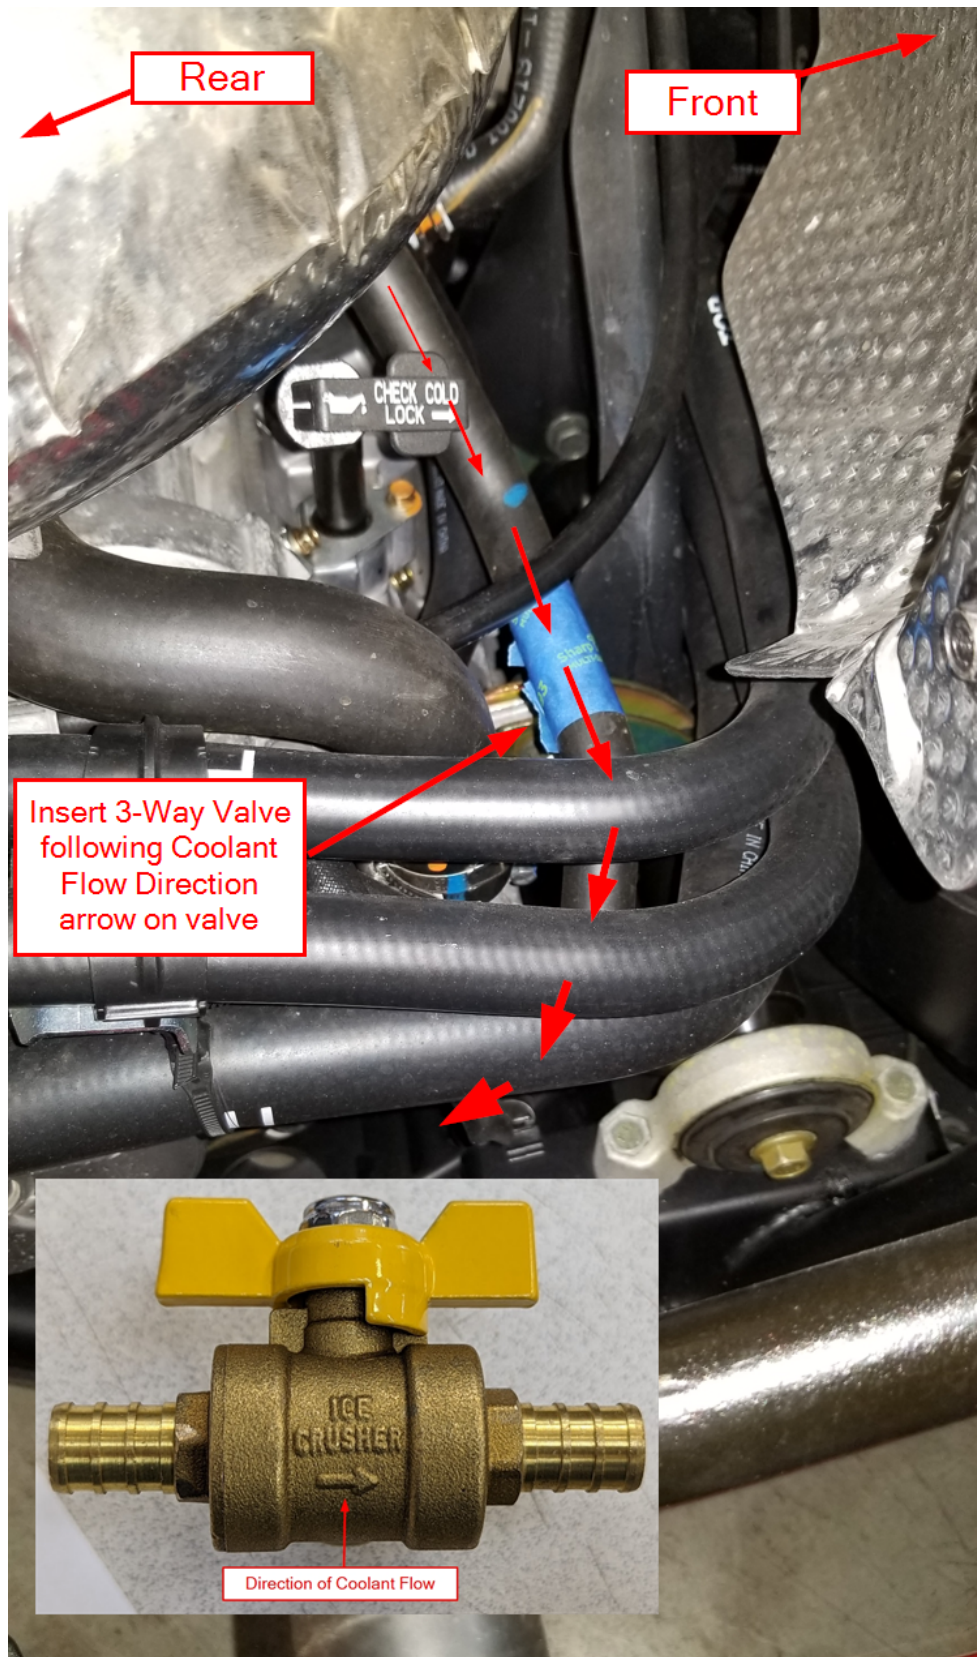

Figure 19
- n. Cut the 1"-1.5" section of hose and insert the 3-Way Ball Valve shown in Figure 19 into the Oil Cooler Bypass Hose with the arrow following the flow direction shown in Figure 19. Secure the valve with the supplied #10 Hose Clamps. Connect the 5/8" Heater hose, cut to length if necessary and secure with #10 Hose Clamps.